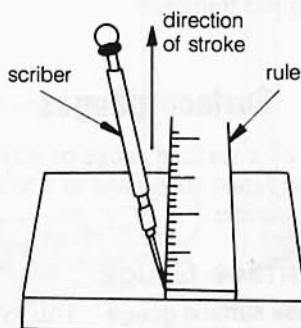

Figure 2 Scriber inclined away from rule edge
- The scriber must be inclined away from the rule so that the point makes contact with the rule edge (Fig. 2).